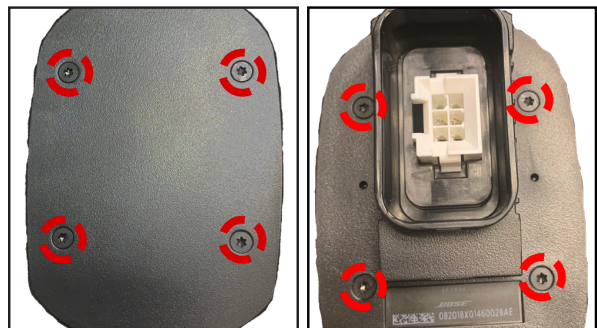

Figure 25. Both Ends of Endcaps Screws Removal
1.1 Remove the 8 screws that secure the Endcaps from both ends of the Line Array as indicated in Figure 25.